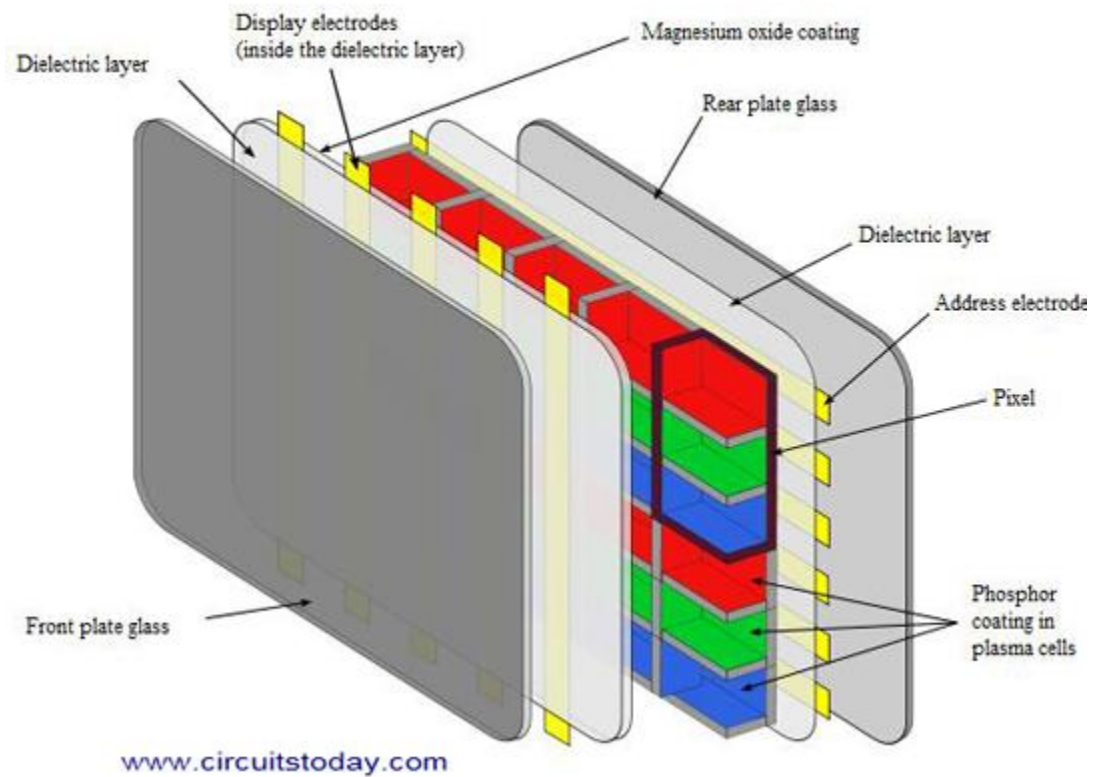

Fig 2
- ❖ *The plasma display panel consists of millions of tiny cells or compartments sandwiched between two panels of glass (fig 2). These tiny compartments are the smallest units of picture display and are called 'Pixels'. The pixel cells in plasma tv are filled with small amount of neon or xenon gas, that form the plasma, and coated from inside with RGB (red, green and blue) trio of phosphor chemicals.*